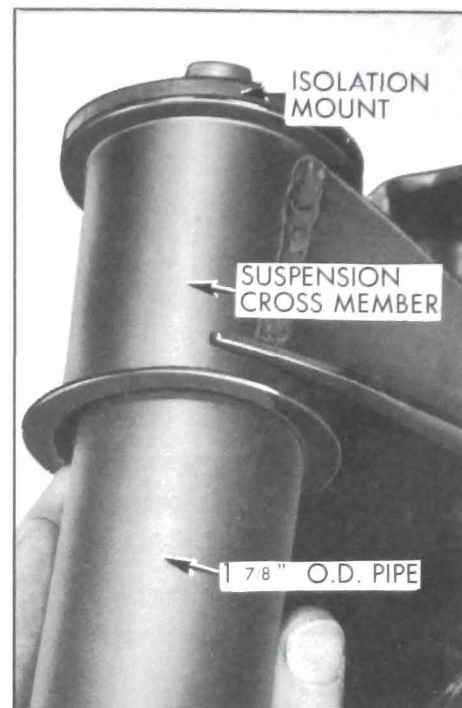

Figure 7-34—Removing Isolation Mount
12. Lower front suspension assembly and drive isolation mount up out of suspension cross member. See Figures 7-34 and 7-35.